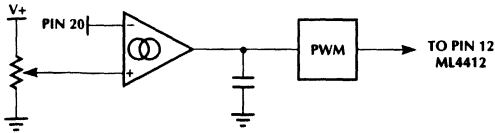

Figure 9. Voltage Controller PWM Generator
2. Using analog circuitry for speed control. (Fig. 9)